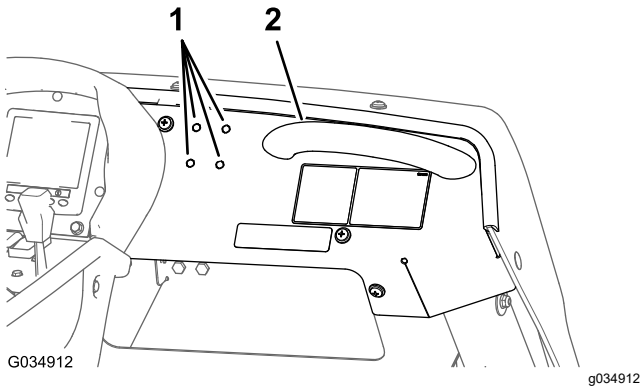

Figure 132
1. Locate the 4 hole punchouts (1/4 inch) in the dash panel that are located to the left of the grab handle (Figure 132).
2. Remove the 4 hole punchouts from the dash panel (Figure 132).